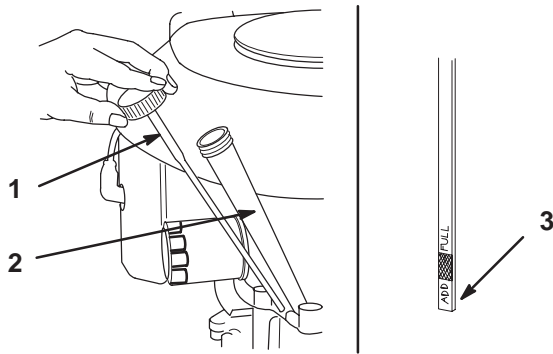

Figure 37
2. Clean around the oil dipstick (Fig. 37) so dirt cannot fall into the filler hole and damage the engine.
3. Unscrew the oil dipstick and wipe the end clean (Fig. 37).
4. Slide the oil dipstick fully into the filler tube, do not thread onto tube (Fig. 37). Pull the dipstick out and look at the end. If oil level is low, slowly pour only enough oil into the filler tube to raise the level to the "FULL" mark.
6. Slowly pour approximately 80% of the specified amount of oil, on page 30, into the filler tube (Fig. 37). Now check the oil level; refer to Checking Oil Level, page 30. Slowly add additional oil to bring to "FULL" mark on dipstick.